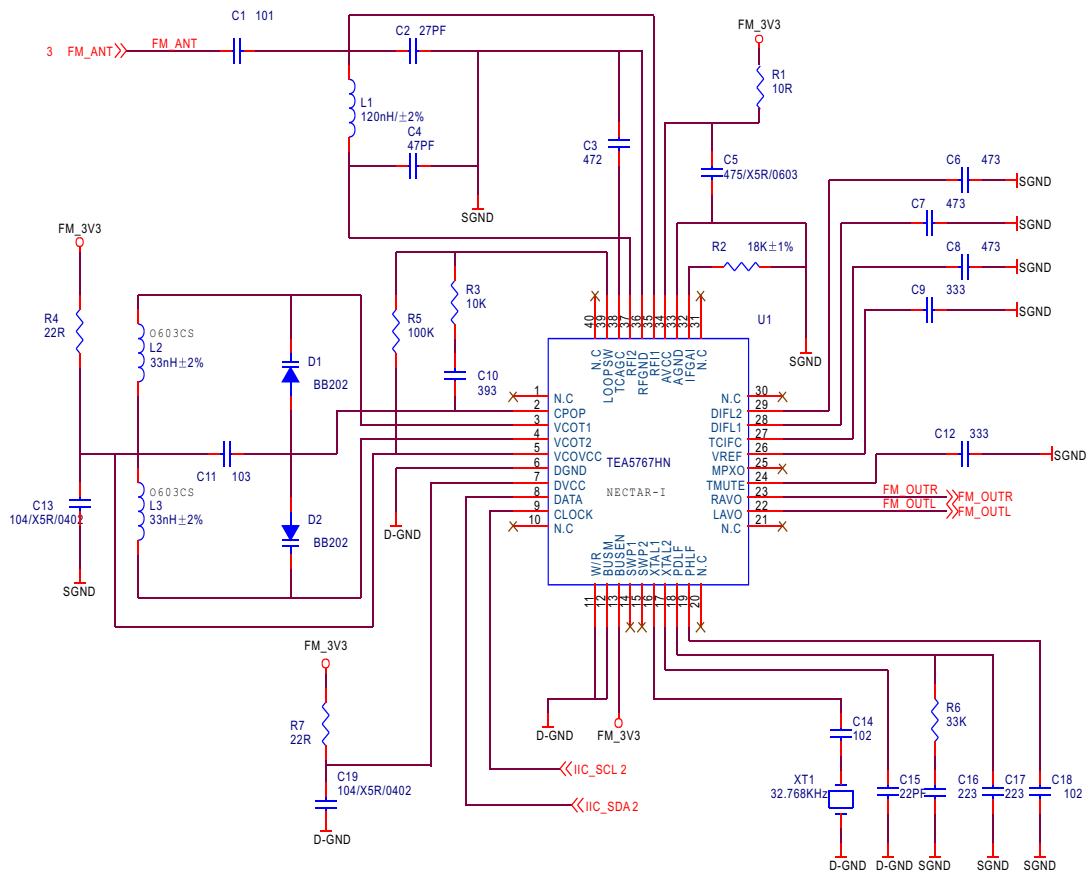

Figure 3.2.2.1 FM module circuit schematic diagram
1. FM module circuit schematic diagram is shown in the figure 3.2.2.1: